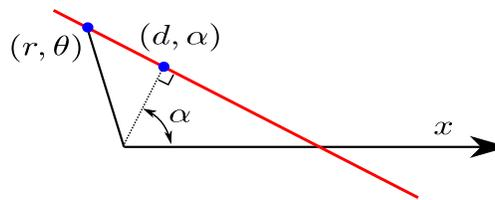

Figure 3: Representation of a line drawn a distance d from the origin.
32) Determine the equilibrium shape of a crystal. This should be done using a computer and your favorite program or language (most likely MATLAB). The equation of a straight line in polar coordinates drawn from the origin of the polar coordinate system is $r \cos(\theta - \alpha) = d$, where (r, θ) locate the points on the line, d is the perpendicular distance from the origin to the line and α is the angle between the perpendicular to the line and the x-axis (see Figure3).